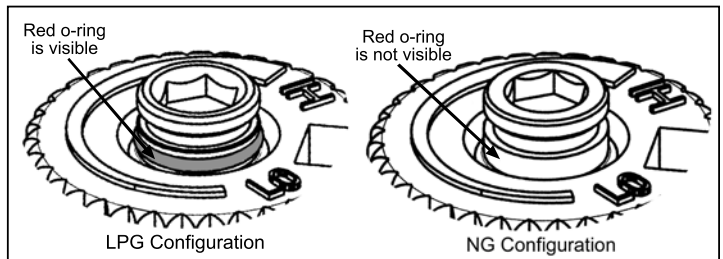

Figure 12: O-ring on valve screw.
- d) Flip the screw (refer to Figure 12).
- f) Verify that if the conversion is from NG to LPG, the screw must be re-assembled with the red o-ring visible (refer to Figure 12). If the conversion is from LPG to NG, the red o-ring of the screw must be not visible.